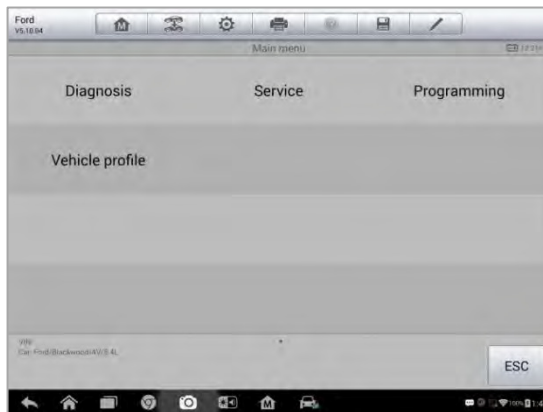

Figure 4-2 *Sample Vehicle Diagnostics Screen*
5. Tap **Done**. The vehicle will be identified in a few seconds, and once the matching is successful, the system will guide you to the Vehicle Diagnostics screen directly. (Figure 4-2)
The Vehicle Diagnostics screen (*Figure 4-2*) has 2 main options: